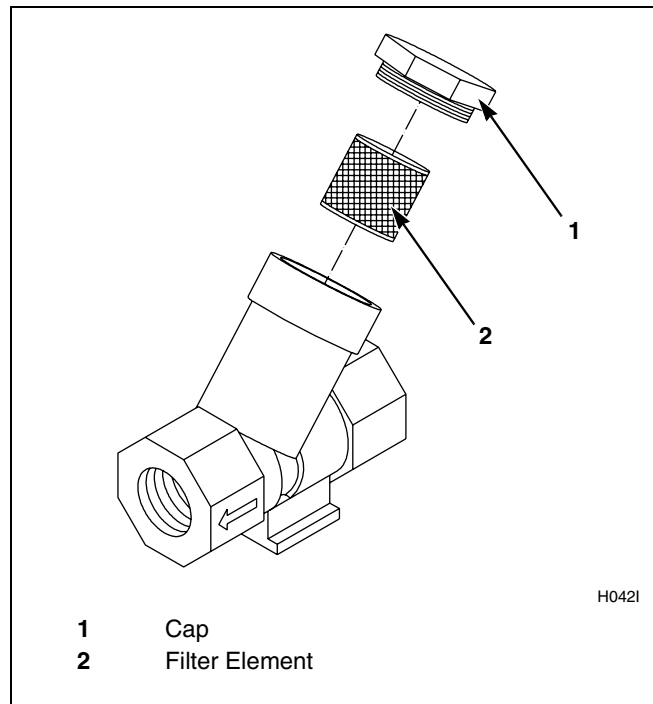

Figure 12
5. Clean customer-supplied steam filter, where applicable. Refer to *Figure 12*.